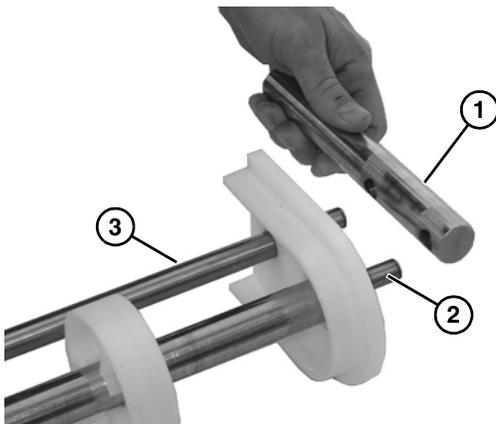

Figure 63
- Remove the bearing end rod (**Figure 63, item 1**) from idler shaft (**Figure 63, item 2**) and pinch guard shaft (**Figure 63, item 3**).